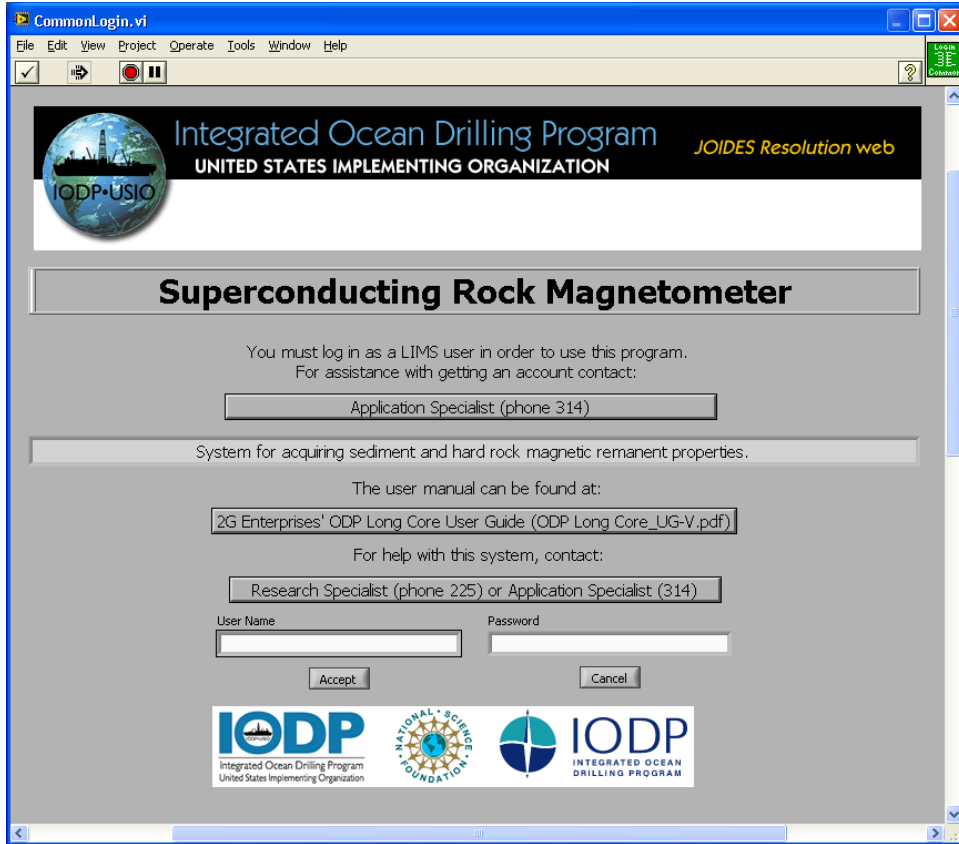

Figure 2. LIMS Login.
2. Enter LIMS credentials into the application login screen (*Figure 2*).